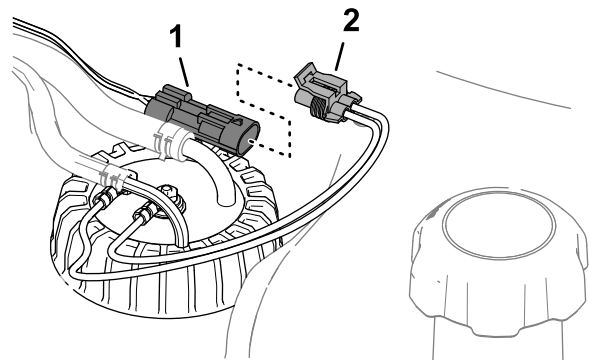

Figure 119
3. Remove the 2-socket connector of the fuel-sender harness from the 2-pin connector of the machine wire harness (Figure 119).